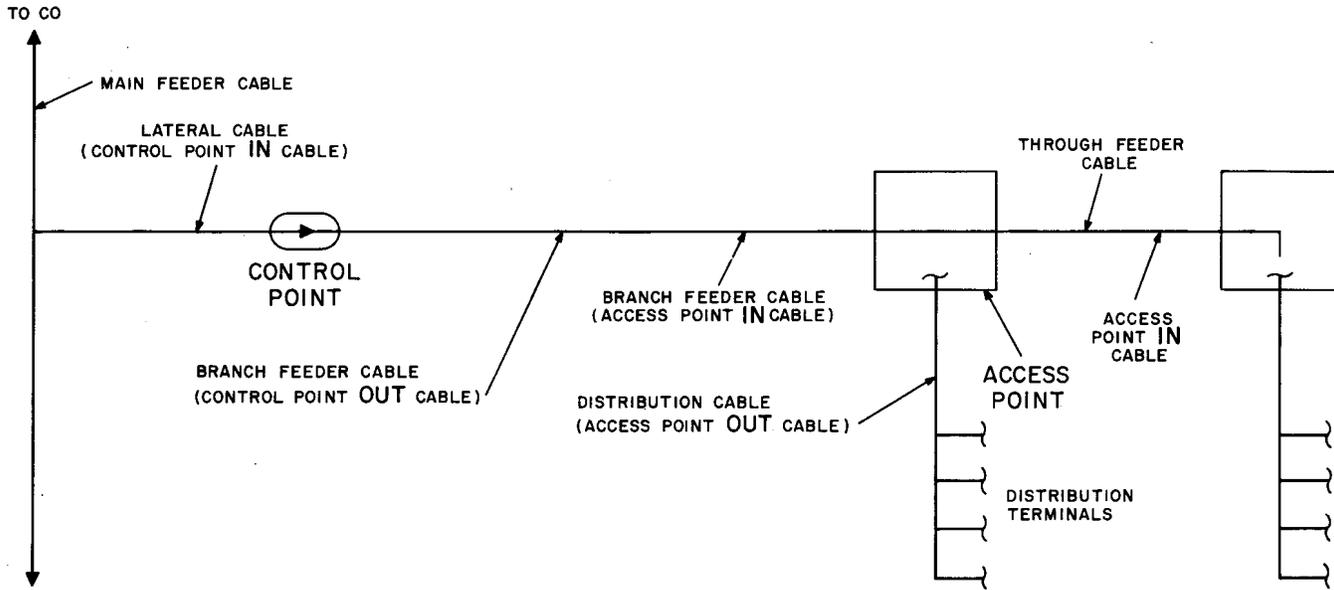

Fig. 1—Simplified Dedicated Plant Distribution System
2.01 *Access Points* provide a means of connecting pairs in distribution cables to spare pairs in branch or main feeder cables. Cables entering access points from the central office or a preceding control point are termed *IN* or *EXPRESS* cables (Fig. 1). Cables leaving access points toward subscribers are termed *OUT* cables. Cables which originate in the access point assume the address of the access point, and the cable pair numbers assigned to the pairs in these cables begin at one (1) and continue up to the total number of pairs originating at this location. *EXPRESS* feeder cables leaving access points do not change designations.